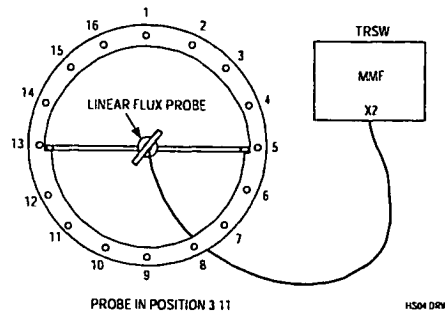

Figure 3 Freq. Adjustment mode 3 - 11
1. Position the **linear flux probe** with use of the rotation knob in the QBC flux probe holder in the center of the QBC. Connect the cable of the flux probe to Tune A signal at connector MMFX2 of the TRSW board. The cable should leave the magnet via the backside to prevent coupling with the hybrid box. See Figure 3.
2. Position the flux probe in position 3 - 11. (Figure 3)